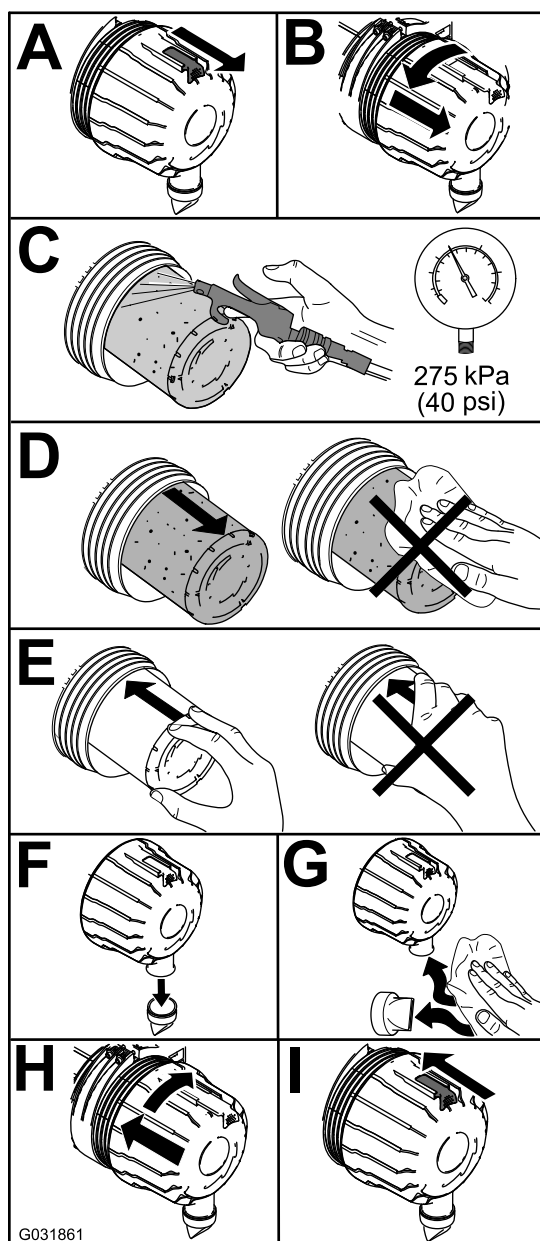

Figure 59
1. Replace the air cleaner (Figure 59).